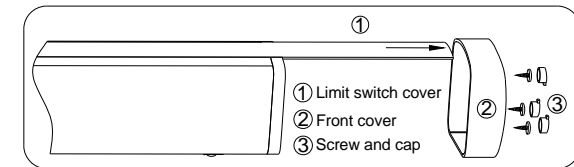

Fig.10
- Back off the screw retaining the front cover, remove the front cover. Slide out the aluminium limit switch cover. See Fig.10
- Release the operator by turning the key 180° clockwise, manually close the gate to fully closed position.